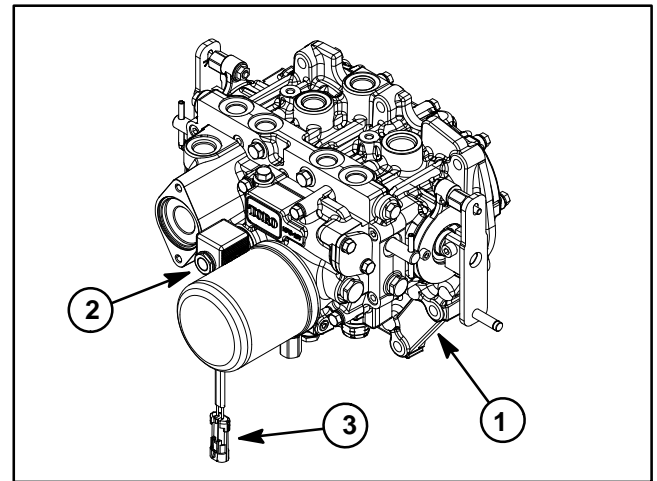

Figure 44
2. To prevent unintentional engagement of the PTO clutch, disconnect the wire harness electrical connector from the PTO solenoid valve coil connector (Fig. 44).
- B. Loosen two (2) cap screws and lock nuts.
6. Connect the wire harness electrical connector to the PTO solenoid valve coil connector (Fig. 44).